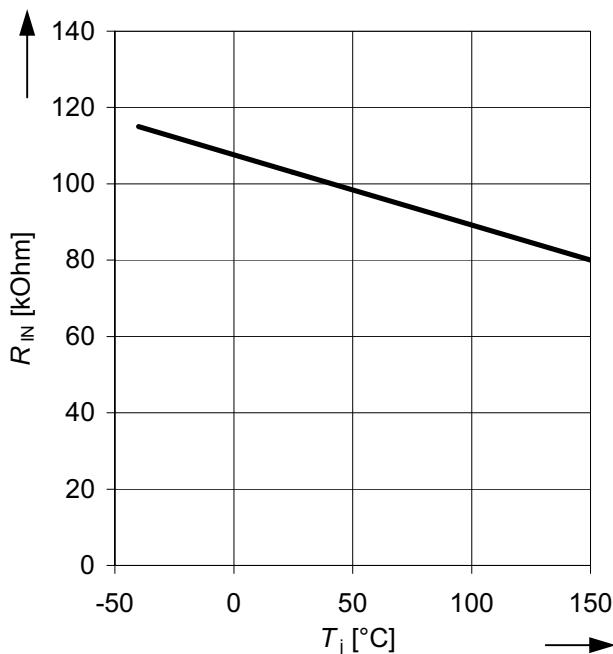

**Figure 32** Typical turn ON rise time  $t_r$  and turn OFF fall time  $t_f$  as a function of the junction temperature  $T_j$
| DS V1.1  | 2011-05-26 | <p>Chapter 4.1 Footnote 4) splitted. Footnote 6) added.</p> <p>Equation (7) and Equation (8) corrected. (150°C)</p> <p>P_6.3 <math>I_{S(OFF)_150}</math> condition set to <math>V_S = 13.5V</math></p> <p>P_6.16 <math>(dV/dt)_{ON}</math>, P_6.17 <math>(dV/dt)_{OFF}</math> and P_6.18 <math>\Delta dV/dt</math> not subject to production test; all values changed. Figure 30, Figure 31 and Figure 32 added.</p> <p>P_6.46 <math>I_{S(OFFSET)}</math>, P_6.44 <math>I_{S(L1)}</math> typical value and maximum limit changed.</p> <p>Figure 41 and Figure 42 adapted.</p> <p>Figure 40 “Typical leakage current <math>I_{S(LL)}</math> at the sense output as a function of the junction temperature <math>T_j</math>” and Figure 41 “Typical leakage current <math>I_{S(LL)}</math> at the sense output as a function of the supply voltage <math>V_S</math>” removed.</p> |